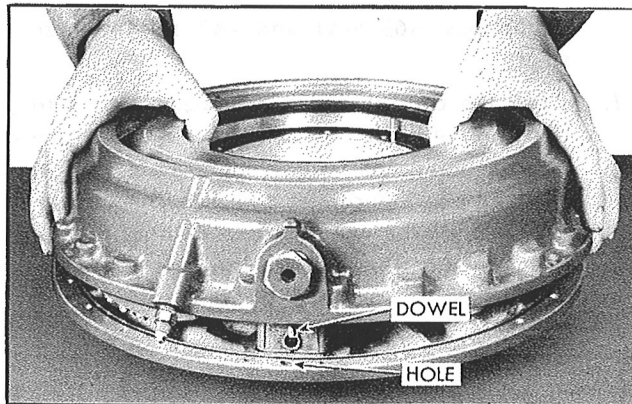

Figure 163—Assembly of the Regulator
*Step 25.*—Place the regulator cover over the housing, align the dowels and take care to seat the cover seal properly. See Figure 163. Rap the cover into position, using hands only.